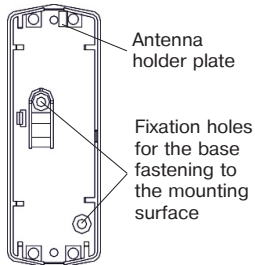

Figure 2 – The Base
9.1 Choose the place of installation. Mark the holes layout, for the purpose the base of the Detector can be used (see Figure 2). Fasten the base by screws. To ensure wall tampering control, fasten the screw in the wall tamper holder.
Attention! Antenna should be installed to the antenna holder plate (see Figure 2). The antenna location outside of antenna holder plate essentially reduces radio communication range.